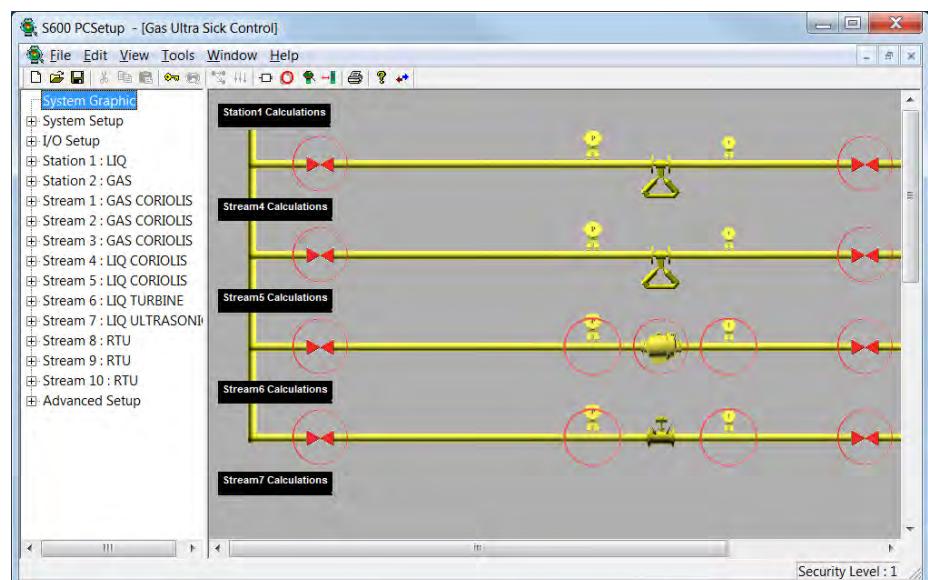

Figure 2-16. Example System Graphic
- When the process completes, the S600 PCSetup screen redisplay, showing a graphic representation of your configuration. (Figure 2-16 is an example graphic):